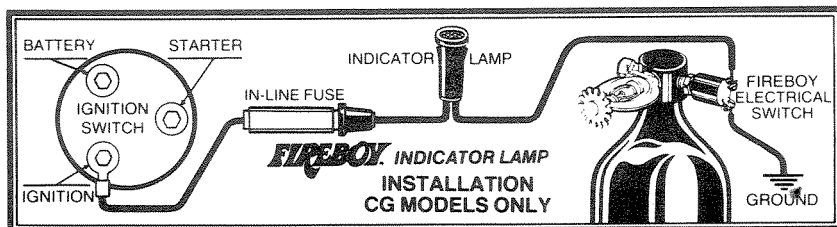

FIGURE 5
**NOTE:** In order to fully comply with U.S. Coast Guard Rule 162.029 when this system is installed in boats having powered ventilation, (i.e., a blower that is on anytime the engines are running) the ground connection of the ventilation blower must be connected to the pressure switch at the same point as the indicator lamp (see Fig. 5) or to terminal Number 2 of Fireboy System's Engine Shutdown/Override Model Series I & II. This connection method will interrupt the blower in the event of a discharge. (See Sec. 6.3 for current limits)
If, after reviewing the wiring instructions below, you have any doubts about your ability to safely install this device, don't take chances. . .consult a qualified marine electrician. In addition, ignition systems and electrical systems vary from boat to boat, and the directions which follow may not apply to your boat. Simply put, the FIREBOY indicator lamp is wired in "series" with the ignition switch, fuse, FIREBOY electrical pressure switch and common ground. See Fig. 5. Assemble the supplies you will need that are not included with your FIREBOY System. 1. The necessary length of insulated 16 gauge (min.) stranded wire; 2. A five (5) ampere "in-line" fuse and fuse holder; 3. Properly sized insulated crimp-on wire connectors. Connect one lead of the fuse to the "ignition" screw of the ignition switch. Connect the other wire of the in-line fuse to one lead of the indicator lamp. Connect the other indicator lamp wire lead to one of the screw terminals of the electrical switch on the FIREBOY System. Connect the other terminal of the electrical switch to the common ground such as the negative terminal block at the instrument panel, or secure it directly to the engine block. Your indicator lamp installation is now complete.